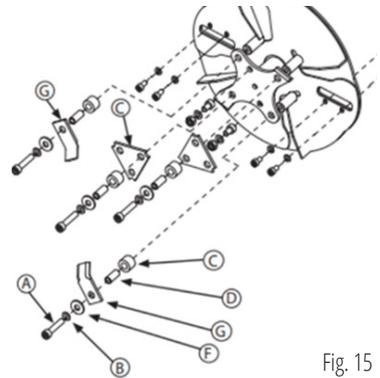

Fig. 15
3. Note the assembly sequence of the hardware used to secure the hammers. Using an 10mm allen wrench remove the socket head cap screw (A) and related hardware. SEE FIGURE 15
5. Reassemble the hammers, spacers, washers, and cap screws. Torque the socket head cap screws (A) to 30-35 ft. lbs. (41-47 N.m.) The J-hammer (G) on the opposite side of the rotor faces outward for balanced rotation.